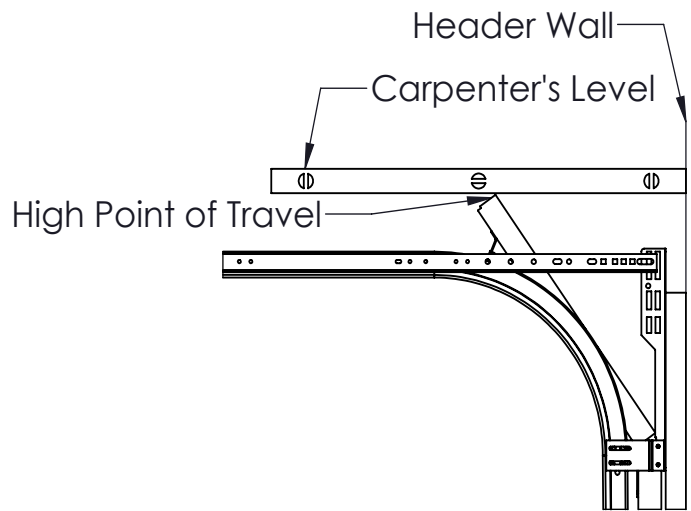

FIGURE 3
2. Determine the highest point of door travel. Slowly raise the door until the top section reaches its highest point. Use a level to project this line to the header where you marked the center of the door. (Figure 3)